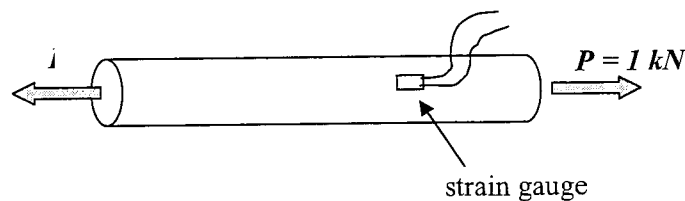

Figure 3 Tension bar
- b. To calibrate a strain gage, a bridge circuit is used for measuring tensile stress of circular mild-steel bar with diameter of 10 mm. The bar is subjected to 1 kN tension load shown in **Figure 3**. The bridge was initially balance, supplied at 6 V, gage factor is 2 and modulus of elasticity for mild-steel is $200 \times 10^9 \text{ N/m}^2$.